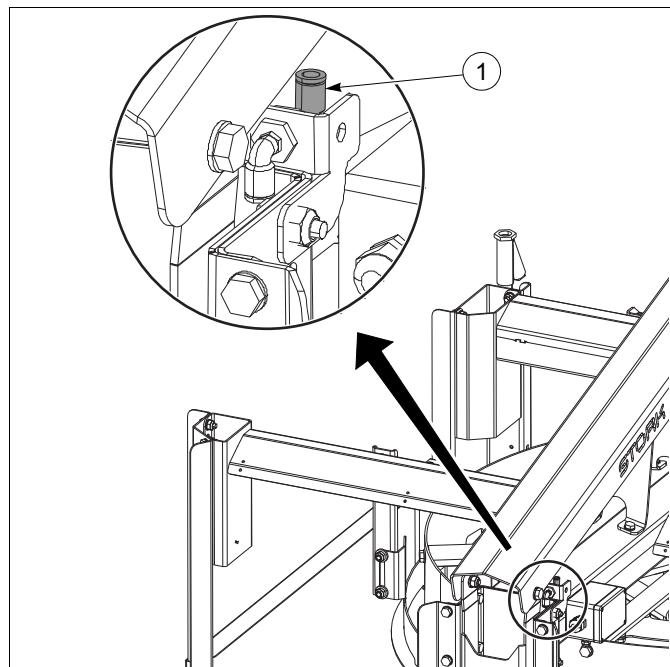

fig. 22 Connect compressed air
- Connect point 1 to the compressed air system. For connection and consumption details consult the "Technical Data". See fig. 22.